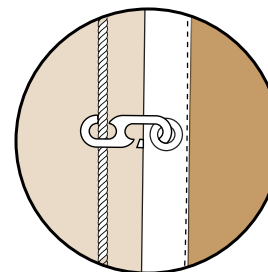

Fig 12,
13. Hoist the flag to the top of the pole, wrap the halyard around the pole once and then wrap it around the cleat. If the flag has eyelets and an s-clip, hook the s-clip to the halyard to keep the flag close to the pole. (See Fig 12)